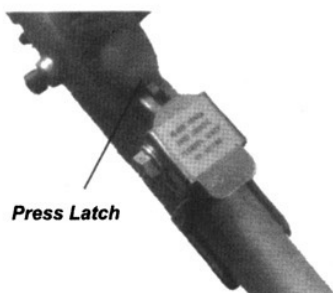

Figure 14
2. Depress the latch. This release the coupler lock. See Figure 14.